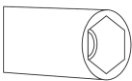

Figure 1
2. Use a hex socket wrench of the appropriate stock to the injector head (Figure 1).